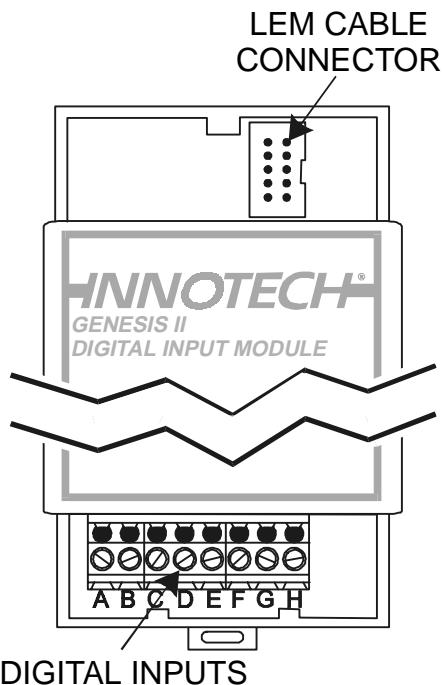

Figure 3-8. Digital Input Module.
**3-4.1.2. DIM Digital Input Modules.** Each DIM (Figure 3-8) provides an expansion capability of four additional digital input channels. The DIM does not have power terminals since operating power is supplied from the controller by way of the LEM cable.
**3-4.1.3. DOM Digital Output Modules.** Each DOM (Figure 3-8) provides an additional four channels of digital outputs, each having voltage-free SPDT output relay contacts. The relay contacts are rated at 240Vac, 2A.